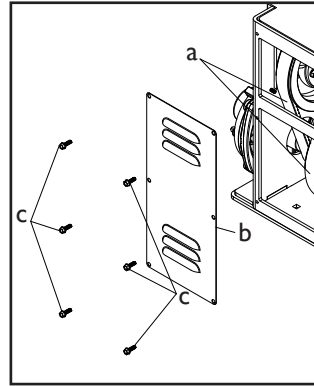

Figure 6: Checking belt tension
2. Be sure that the belts (a) are properly tensioned before use. Remove the side cover (b) by loosening the six 1/4" x 3/4" screws (c) that attach it to the main frame, and check the belt tension (Figure 6).